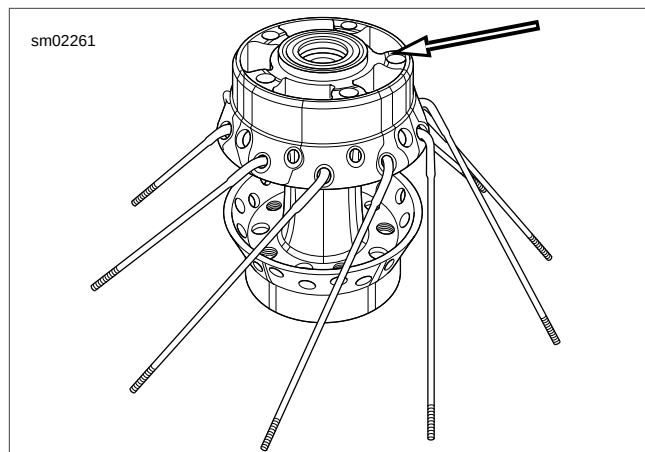

Figure 2-22. Hub: Primary Brake Disc Side Up
- See Figure 2-22. Place hub on table with primary brake disc side up. Insert a spoke in each hole of **lower** row as shown in the figure. Angle spokes clockwise.